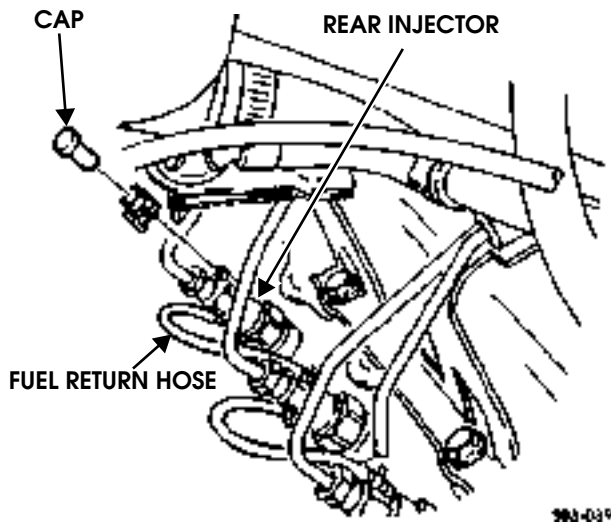

Figure 3-52: Rear Injector Fuel Cap Location
1. If removing rear injector, remove console and engine cover. Remove fuel return hose and cap from injector (Figure 3-52).